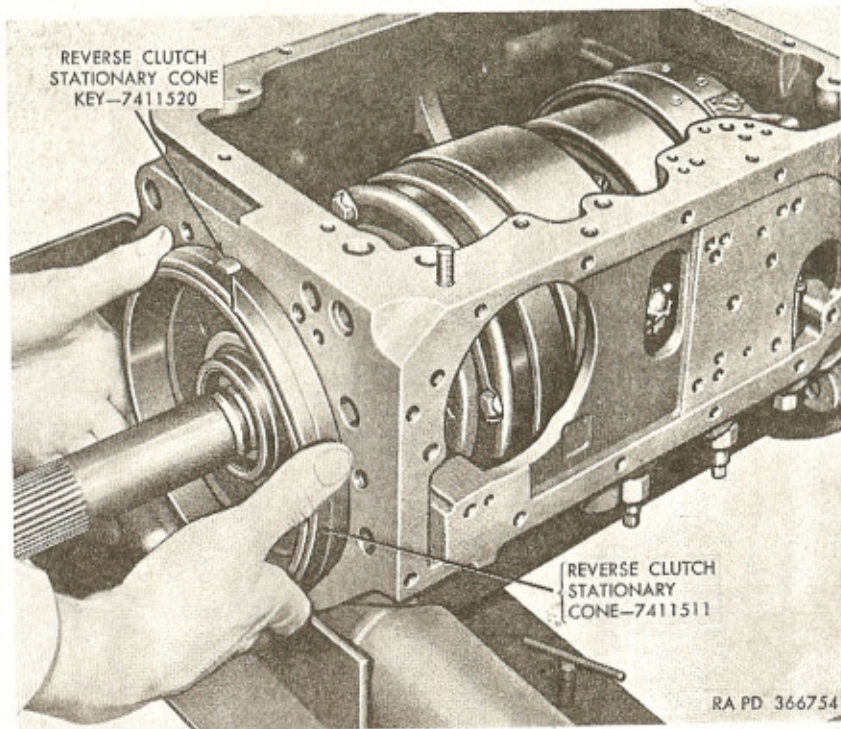

Figure 192. Installing reverse clutch stationary cone and key (303M).
h. Install reverse internal gear and stationary cone as an assembly, meshing internal gear teeth with reverse planet pinions. Aline stationary cone key (fig. 192) with keyway in transmission case; then compress stationary cone with fingers and at same time push cone and reverse internal gear into place.